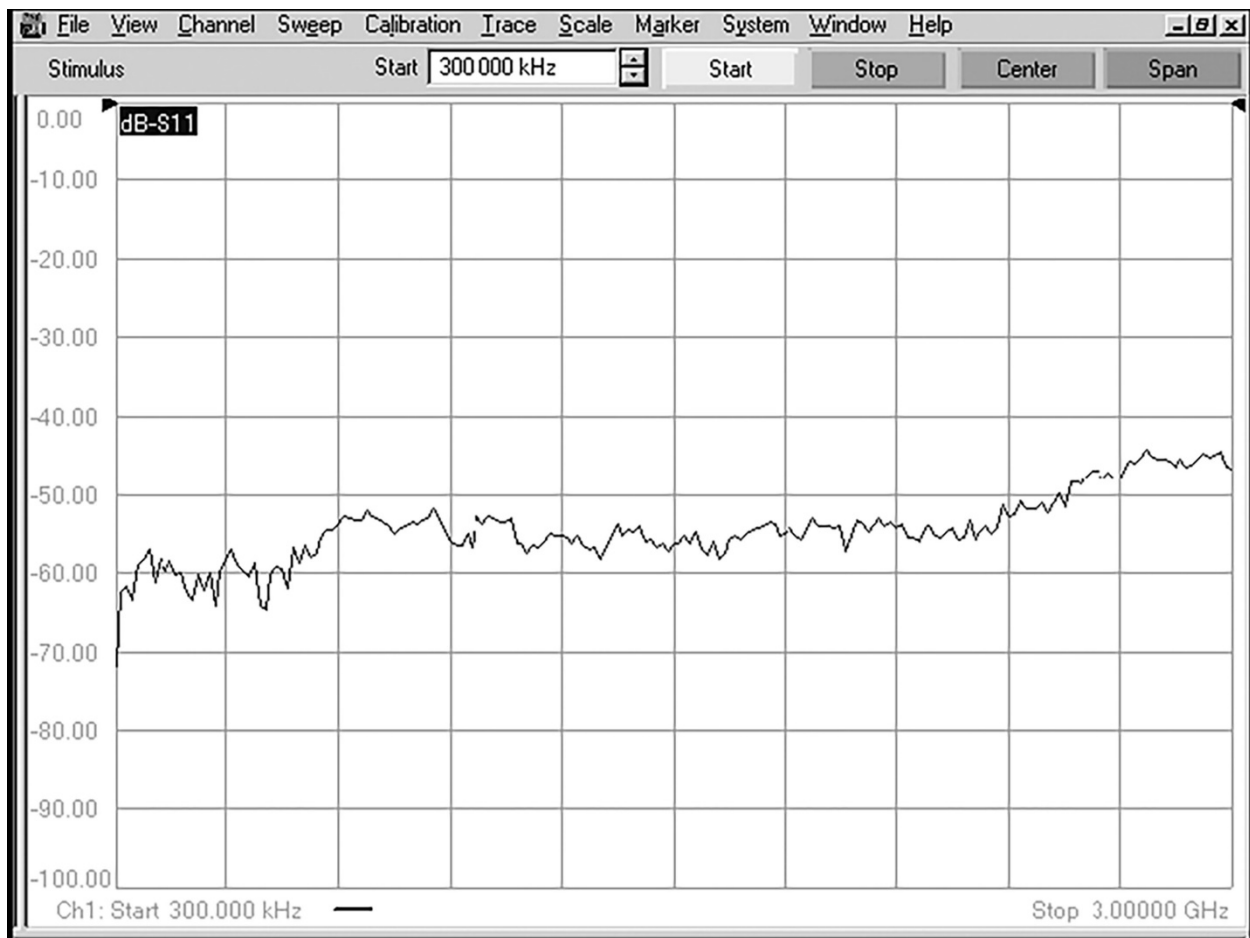

Figure 11. Measurement of load standard after calibration
2. Connect a load calibration standard to port 1. The magnitude of S11 should be less than the specified calibrated directivity of the analyzer (typically less than -30 dB) (Figure 11).